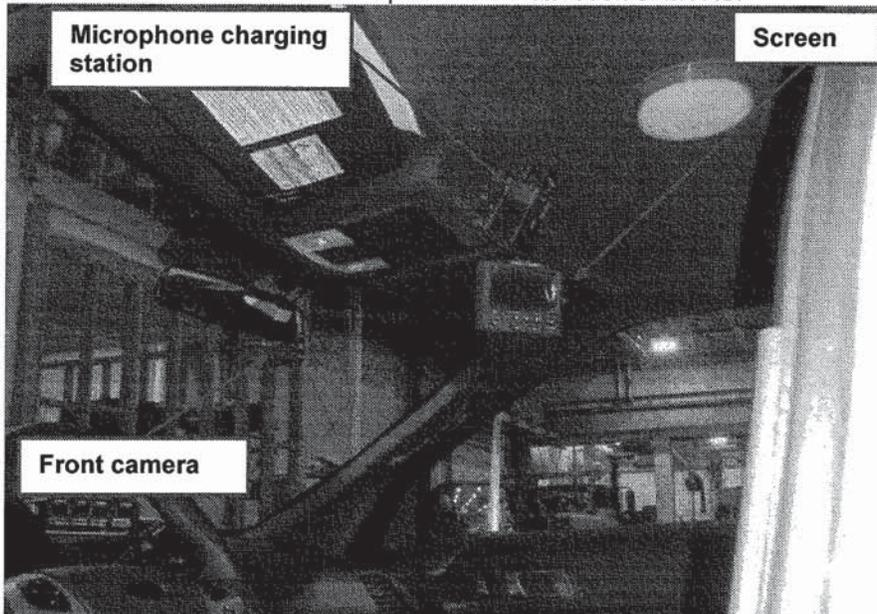

Figure 20 – MVRS modular system (front camera, microphone charging station and screen)
32. The MVRS *shall* be installed in Ford Police Interceptor Sedan marked MP vehicle. Directions and specifications on MVRS can be founded in CF MP Gp Order 2-820 in Appendix 5 to Annex A. Figures 20, 21 and 22 contain illustrated examples of the installation of MVRS.